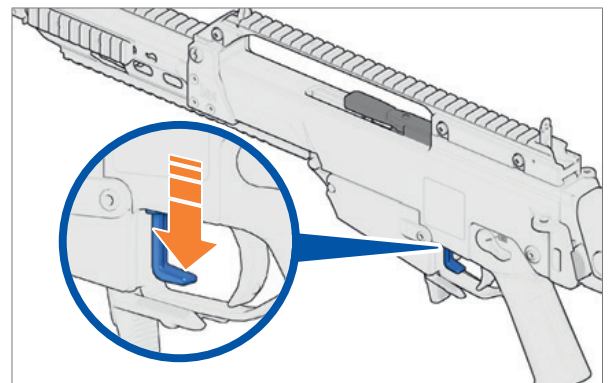

Fig. 17: Press bolt catch/release downwards
- › Press bolt catch/release downwards. (Fig. 17). The bolt group snaps forwards.